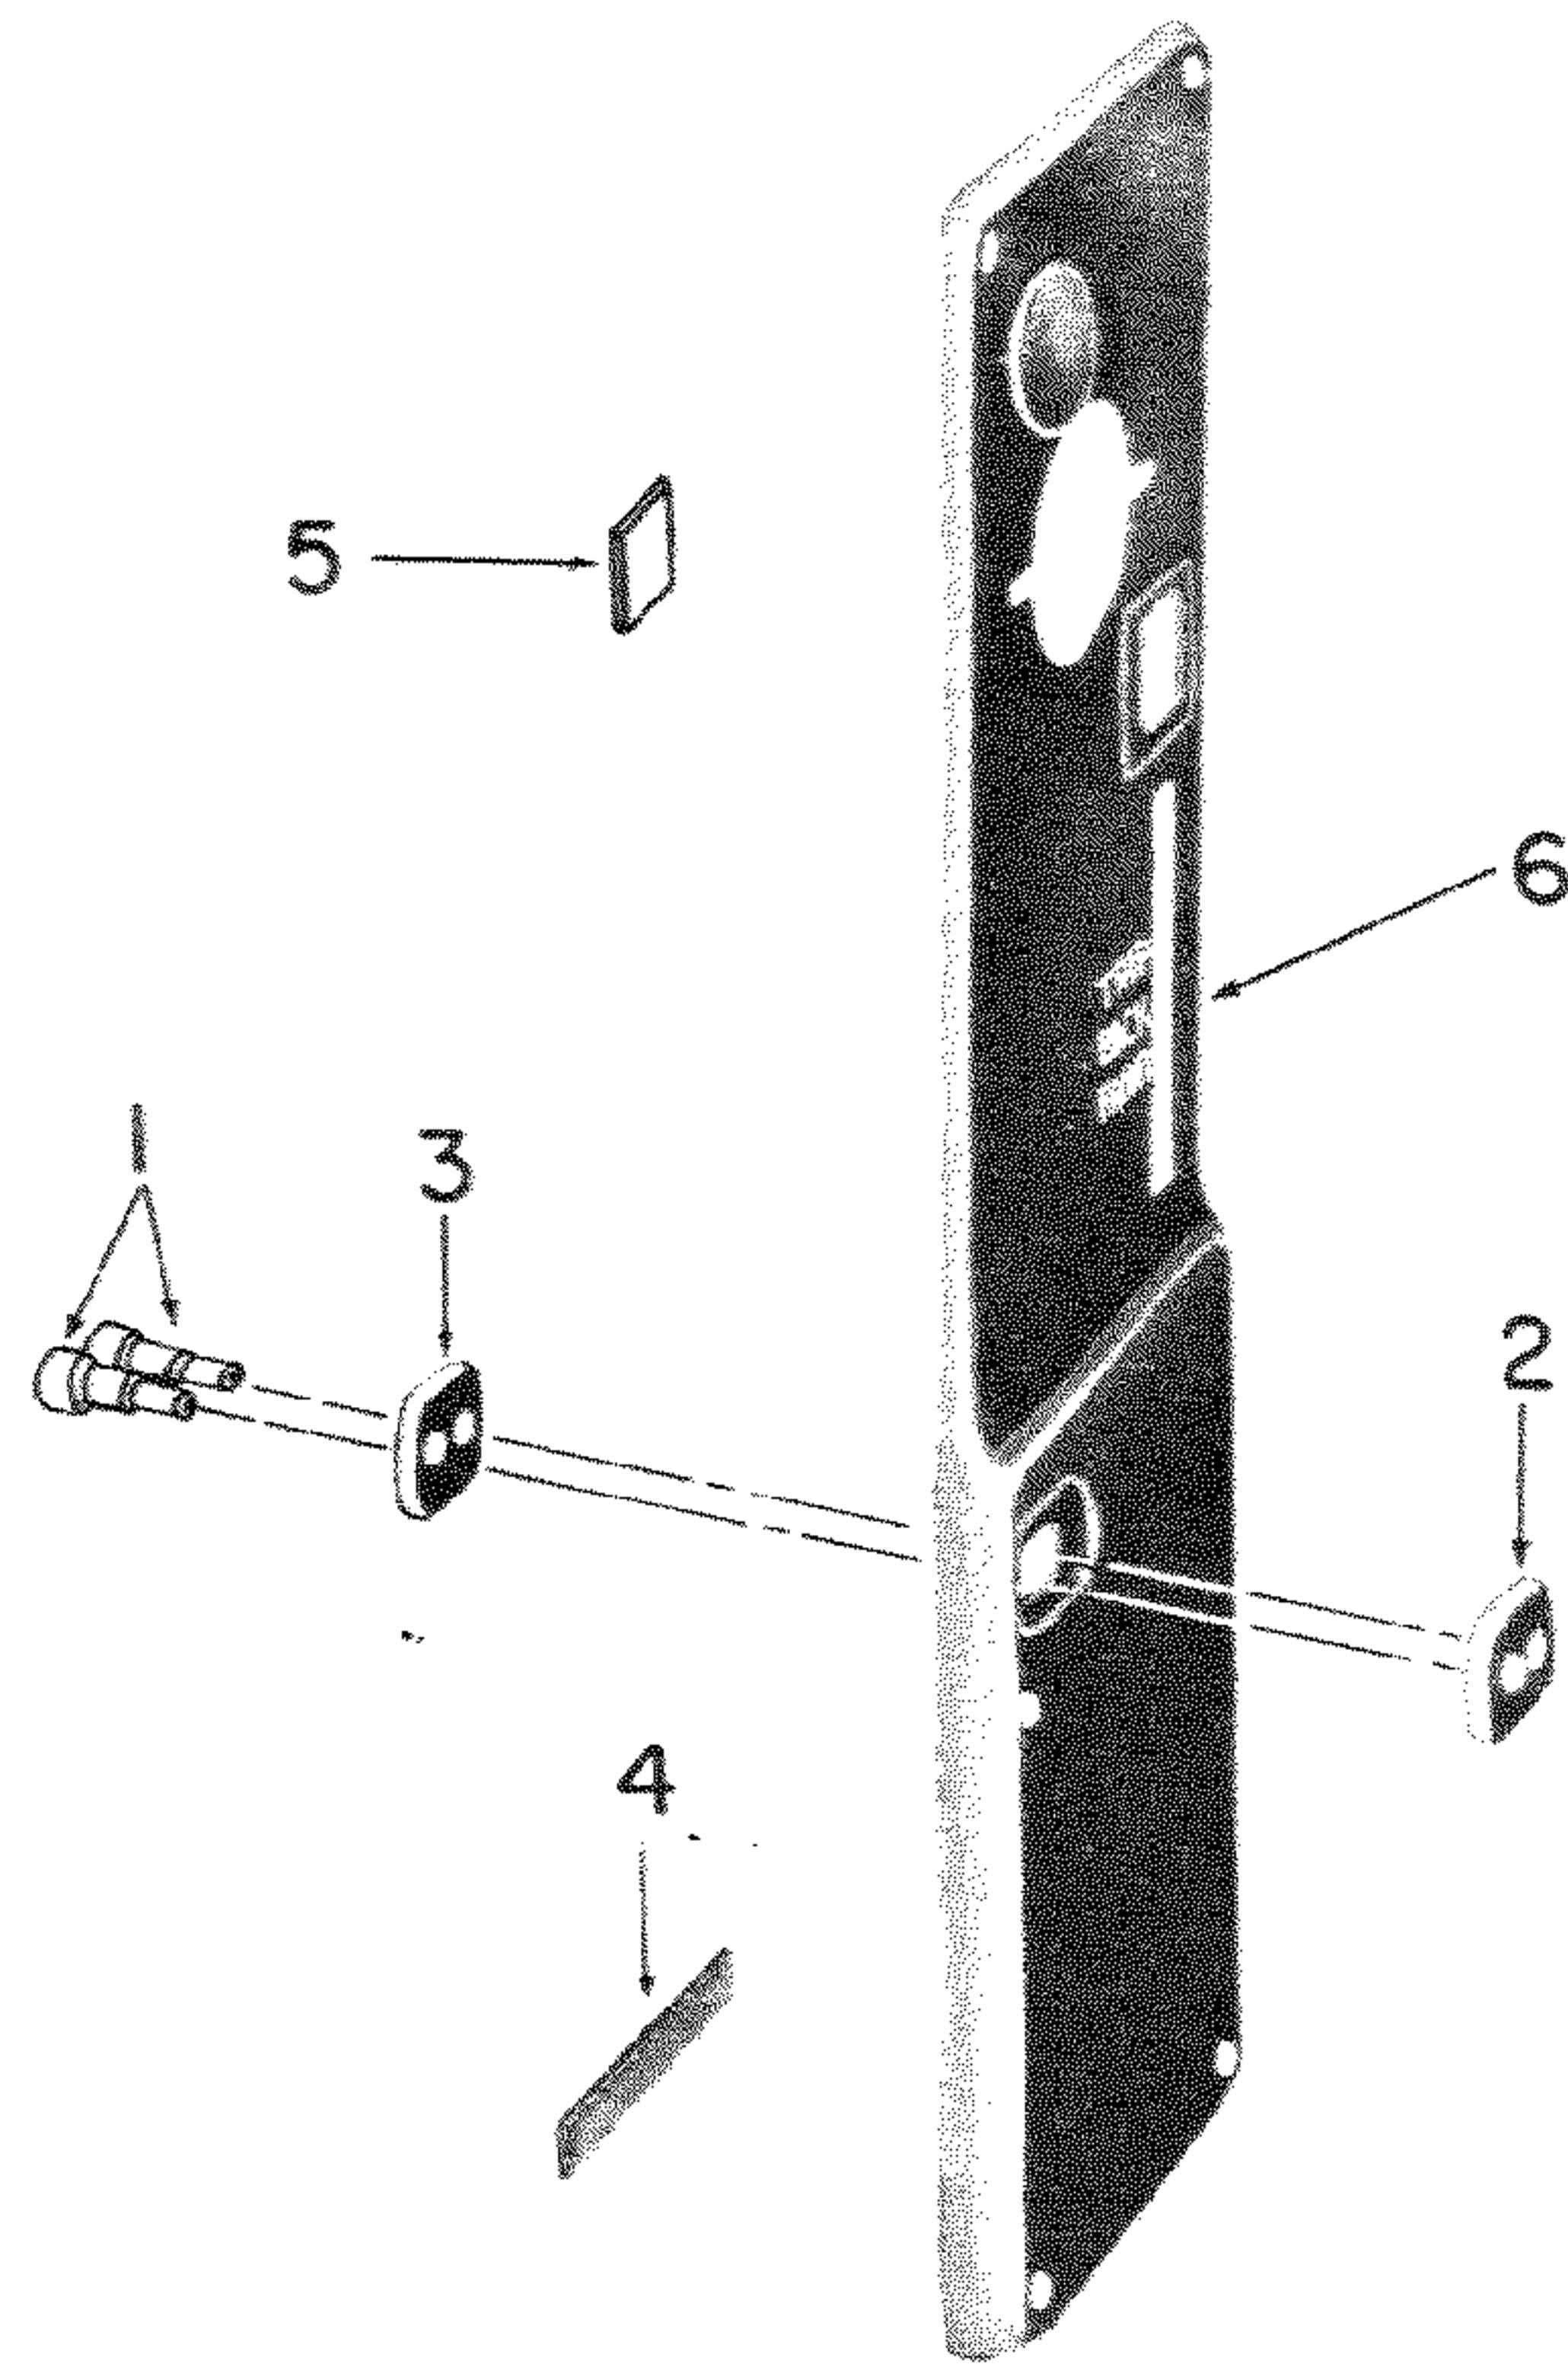
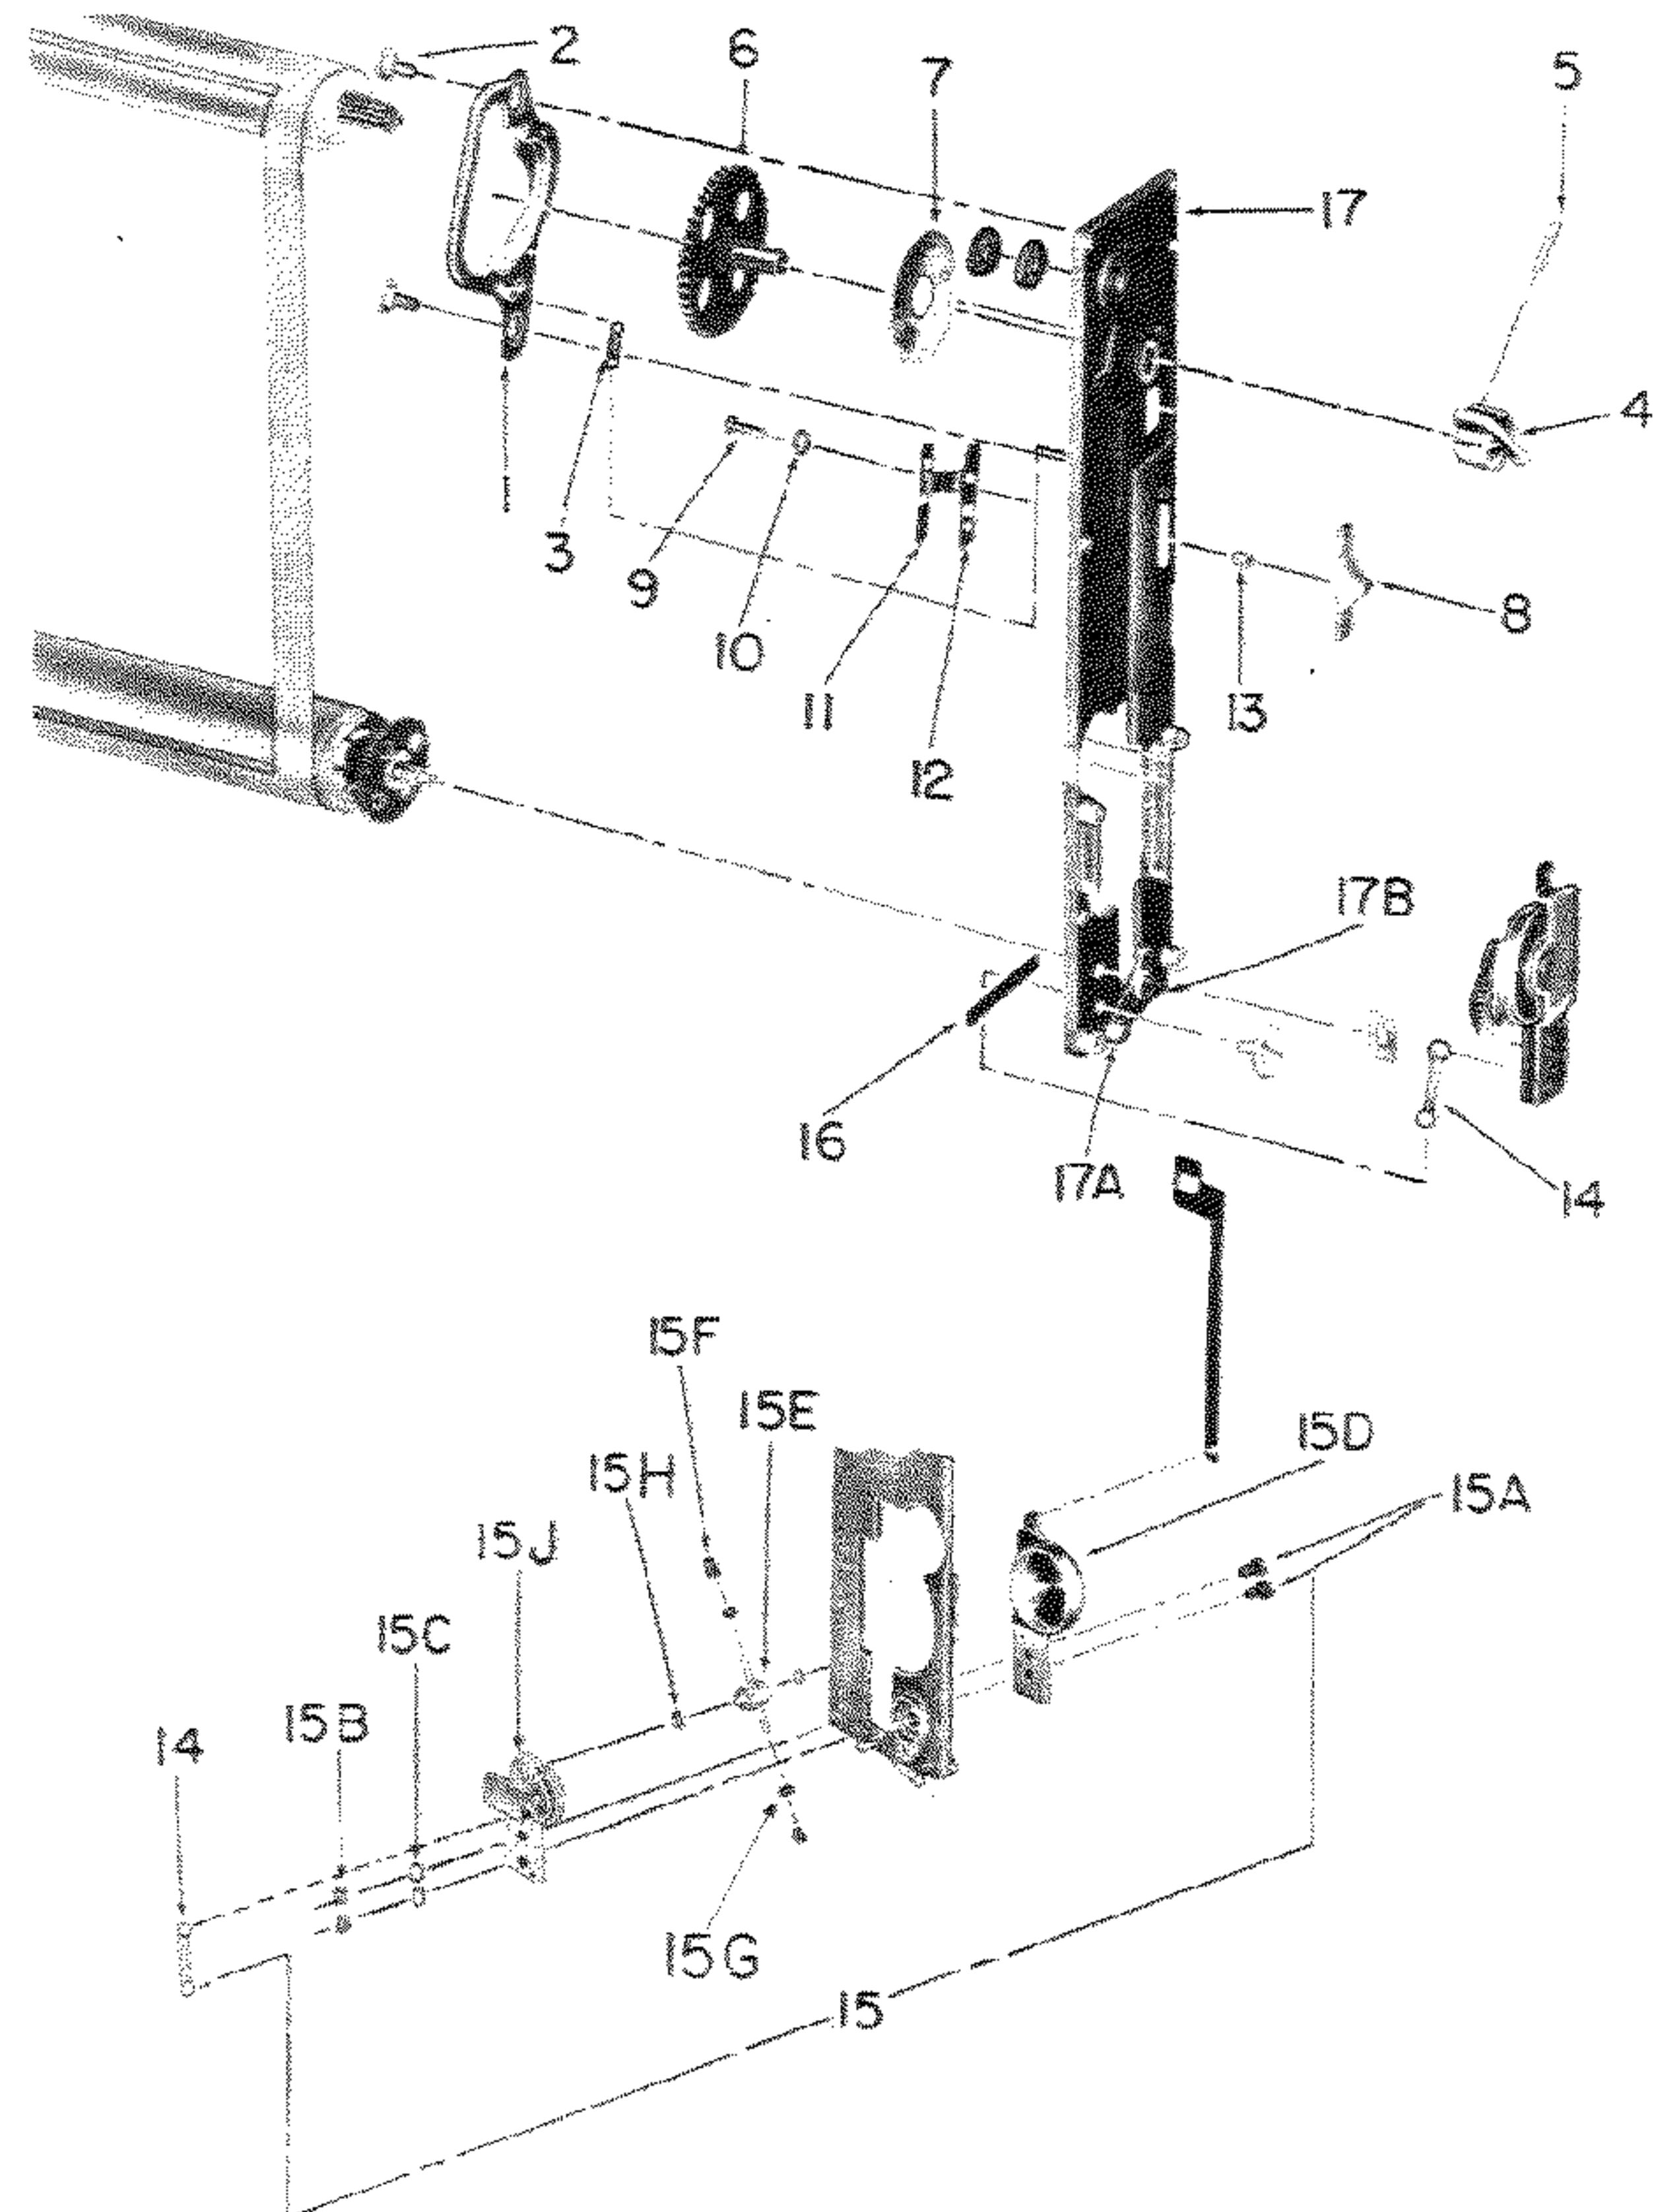

Figure 17. Cover Shutter Plate
Figure 18. Shutter Plate
2. Remove stud (1, figure 17), insulator (2), and washer (3), if necessary.
1. Remove the slide dial (8, figure 3) from the governor stud. Remove the shaft retainer screw (6) and slowly unwind the tension shaft retainer (7). Swing the retard cam lever assembly (17A, figure 18) forward to raise the governor. Remove four wood screws (9, figure 3) and lift the shutter mechanism plate assembly (5) from the camera.
2. The shutter plate (figure 18) is disassembled in four stages; disassemble the portion necessary.
1. Shutter Plate Cover. Examine the shutter plate cover (2, figure 3) for dents that will obstruct the working of the dial slide (8) or governor assembly. Using a stiff brush, brush the fabric dust seal (4, figure 17) to remove dust and grit that may have collected.
2. Shutter Mechanism Plate Assembly. Clean all parts of the shutter plate (figure 18) with solvent, trichlorethylene (AN-T-37a). Dry all parts thoroughly before reassembly. Check the spring (3 and 14); replace if stretched or deformed. Inspect the gears for worn teeth and loose stop pins.
4. Contacts. Check the height of the receptacle contact (13, figure 21) and the receptacle jumper (21). Both of these must be arched above the wood surface at least 3/16 inch so that they will make positive contact with the receptacle contact studs (1, figure 17). Check the curvature of the spring finger contact (17, figure 3); these contacts should be arched evenly not more than 5/32 inch above the block. If the short and long switch contacts (17 and 19, figure 21) are causing an electrical short, remove the body release plate assembly (11), paragraph VI.A. and replace the contacts.
3. Shutter Mechanism Plate Reassembly (figure 18). If the governor complete (15), has been dismantled, lubricate by wiping the outside ends of the governor shoes (15F) and governor pinion assembly (15E) with graphite powder, AN-G-24. The governor shoes must slide freely on the cross shaft of the pinion assembly. Reassemble the governor as follows:
a) Position the bottom bracket assembly (15J) on the lower cut-out of the plate assembly (17).
d) Hook the governor spring (14) to the bottom bracket assembly (15J) and to the lower stud on the plate assembly (17).
c) Rotate the winding key until "0" appears squarely in the upper half of the speed shutter dial window (5, figure 17) when the upper master gear pin is stopped against the top step of the escapement (1) (figure 18).
d) With the bottom strut of the curtain  $1/4$  inch from the upper, inside edge of the frame, position the shutter mechanism plate assembly (5, figure 3) over the pinion ends of the curtain rollers (10). The escapement actuating lever of the concealed body release plate must contact the bottom stud of the escapement assembly (1, figure 18) and the shutter selector shift slide and the shutter selector lever of the concealed body release (located near the middle) must contact the bottom shift plate slide (12). The gear of the top roller meshes with the master gear assembly (6).
e) Swing the retard cam lever assembly (17A) forward to raise the governor complete (15). Drop the bearing shaft of the tension roller in the lower bearing hole of the plate (17). At the forward edge of the plate is a narrow cut-out which fits with a raised lip of the concealed body release plate.